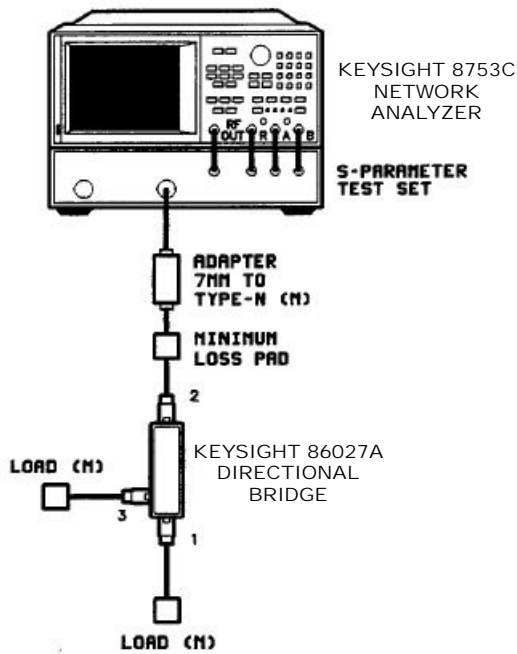

Figure 3-7 Equipment setup for return loss measurement on port 2
- 16 Connect the equipment as shown in Figure 3-7 and repeat steps 11 through 14 to find the return loss on port 2.